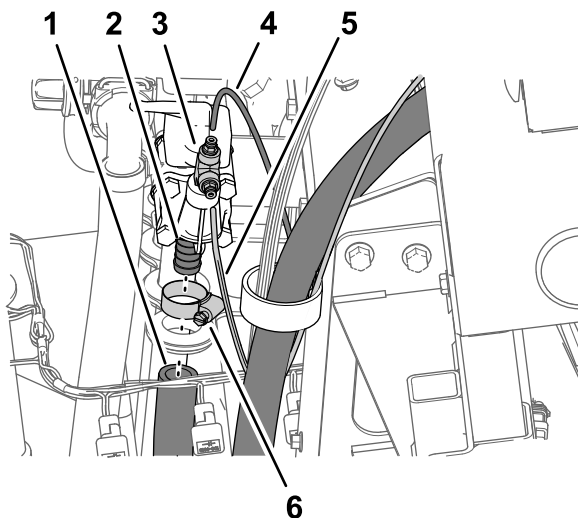

Figure 21
- At the right end of the pressure-control valve, remove the hose clamp that secures the inlet hose to the barbed fitting of the control valve and remove the hose from the fitting (Figure 21).
- Press in the locking collar for the tube coupler and remove the pressure-sense tube for the pressure gauge in the dash of the machine (Figure 21).
- Press in the locking collar for the tube coupler and remove the pressure-sense tube for the pressure gauge of the hose reel (Figure 21).
- Remove the T-fitting and tube couplers from the 90° elbow at the end of the pressure-control valve (Figure 21).